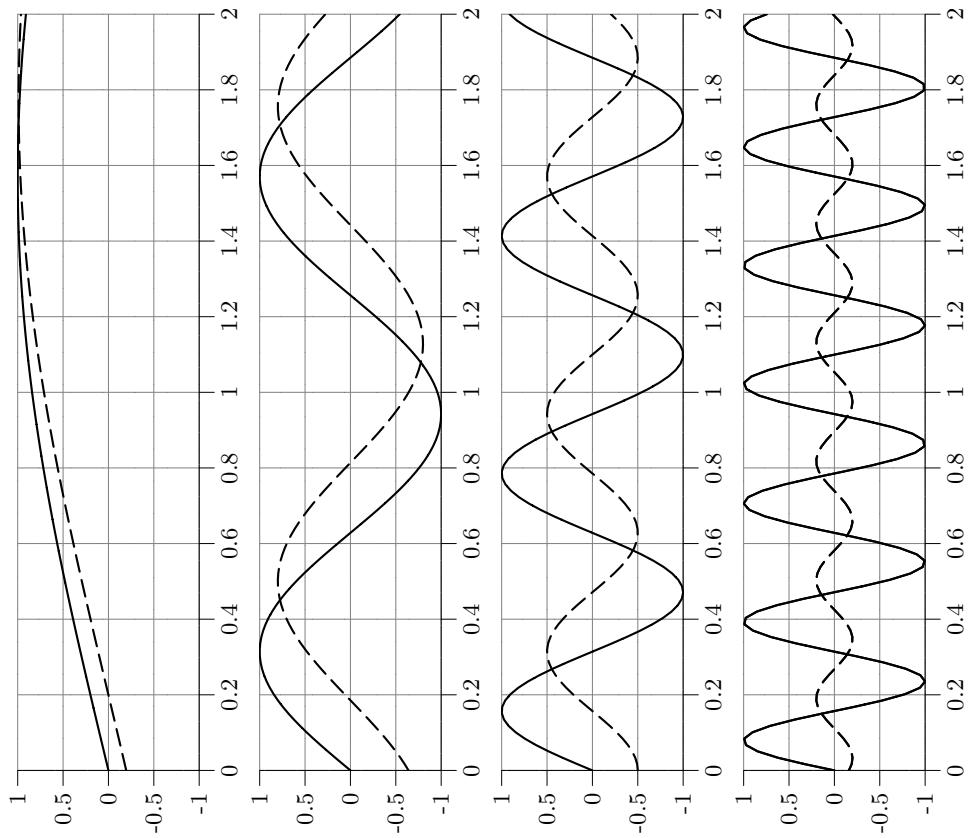

Figure 4.8a. $u(t) = \sin(\omega t)$ (solid) and $y(t)$ (dashed).
- 4.8 A system is described by $Y(s) = G(s)U(s)$. Figure 4.8a shows $u(t) = \sin(\omega t)$ and the corresponding output $y(t)$ (after all transients have faded away) for the frequencies $\omega = 1, 5, 10$, and 20 rad/s (from top to bottom).